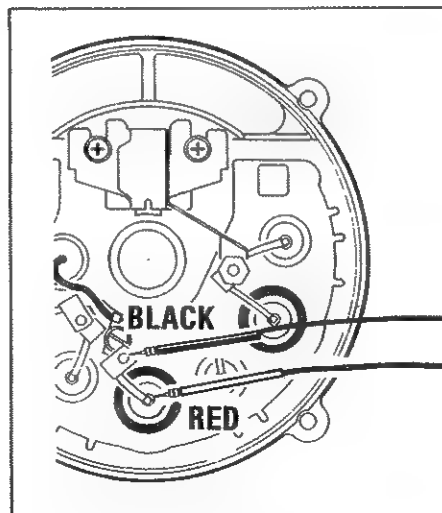

Figure 15. Alternator Diode Test Hookup.
5. Touch one test probe to ground on the diode casing and the other test probe on the diode lead as illustrated in figure 15.